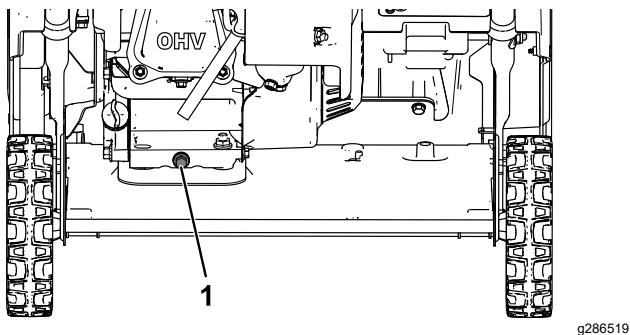

Figure 25
3. Place an oil-drain pan under the oil-drain plug, remove the plug, and tip the machine backward and drain the used oil in the pan (Figure 25).